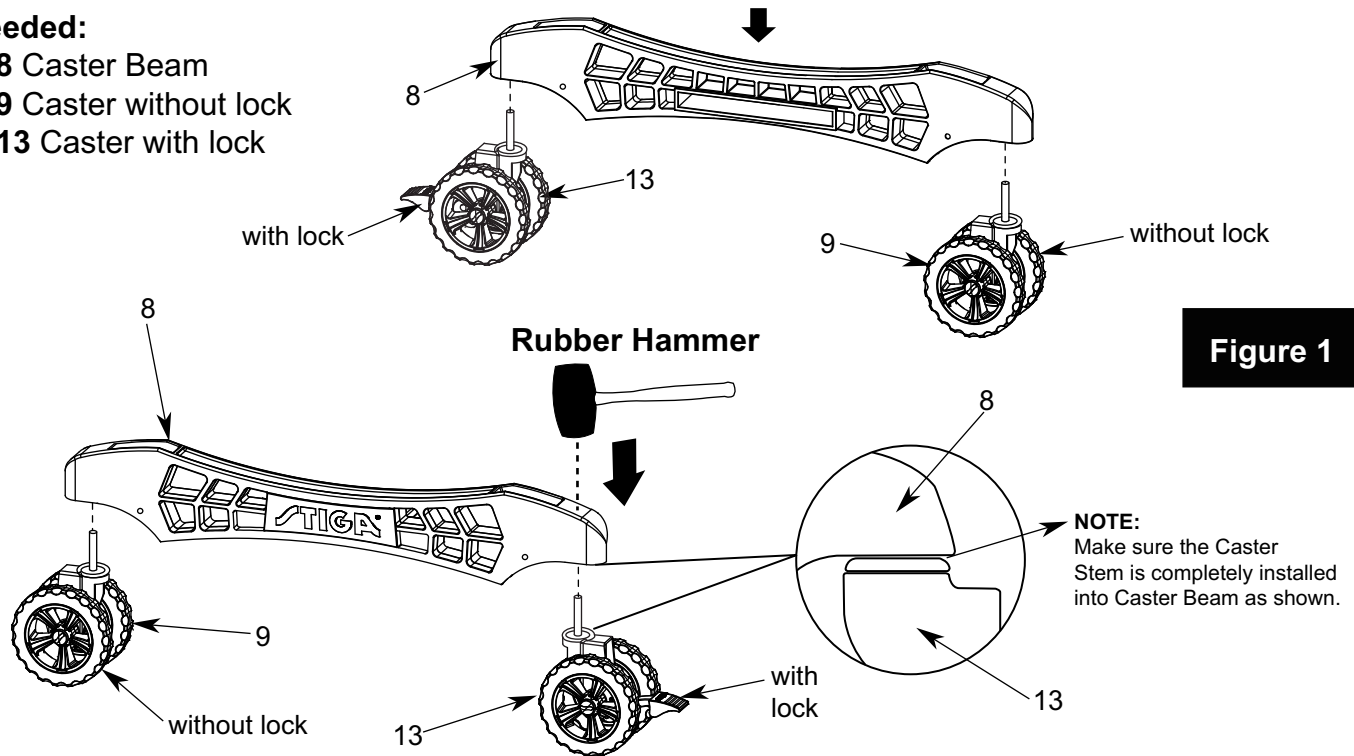

Figure 1
1. Slide a Caster Wheel **with** Lock (#13) into Caster Beam as shown in **FIGURE 1**. On the other end of the Caster Beam attach a Caster Wheel **without** Lock (#9). Make sure you have one Caster Wheel with lock and a Caster Wheel without lock for each Caster Beam. Repeat this step to attach the Casters to the second Caster Beam.